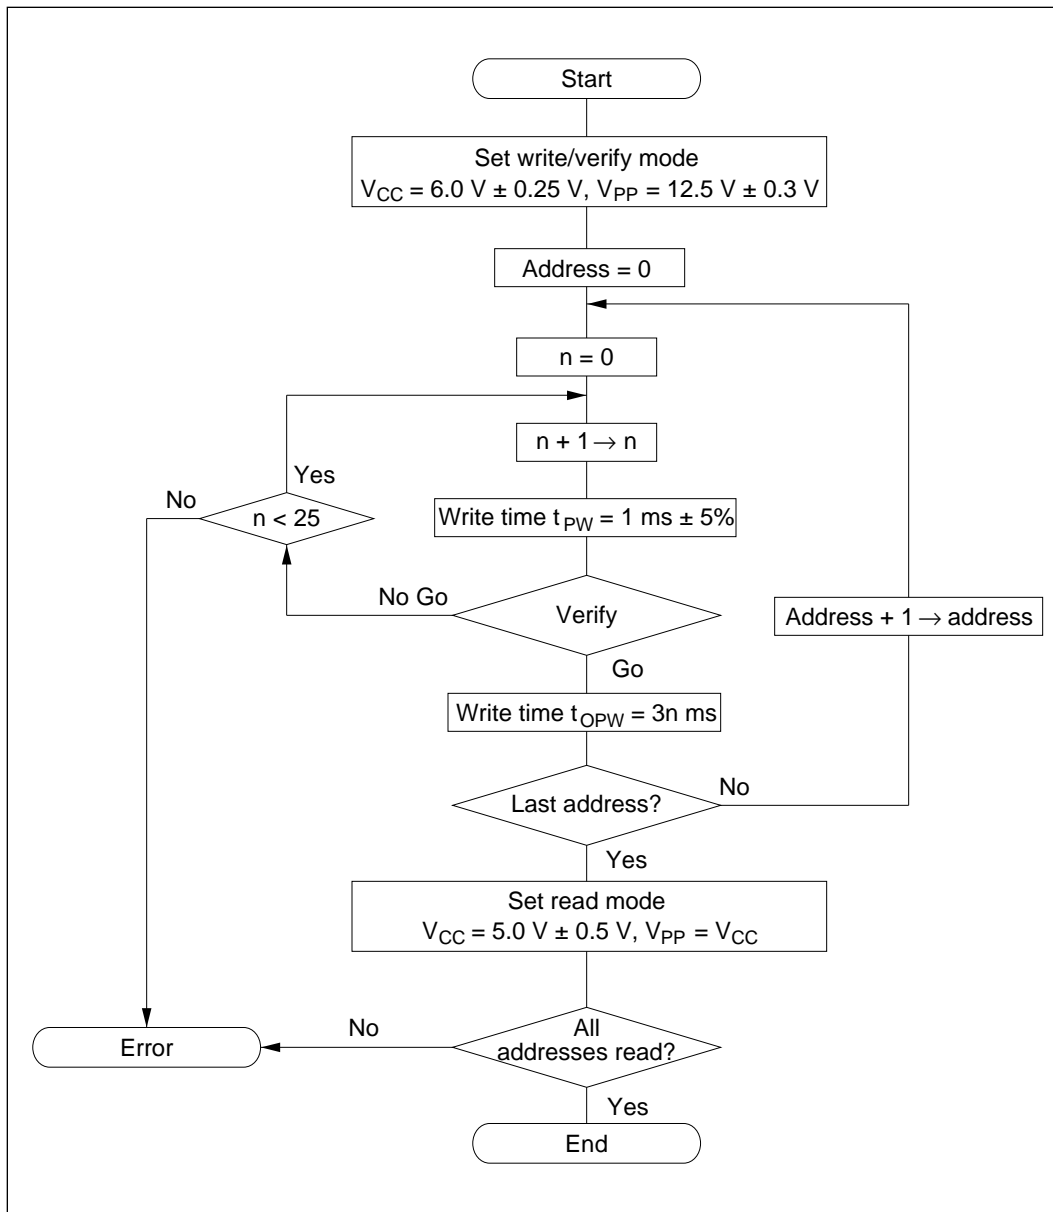
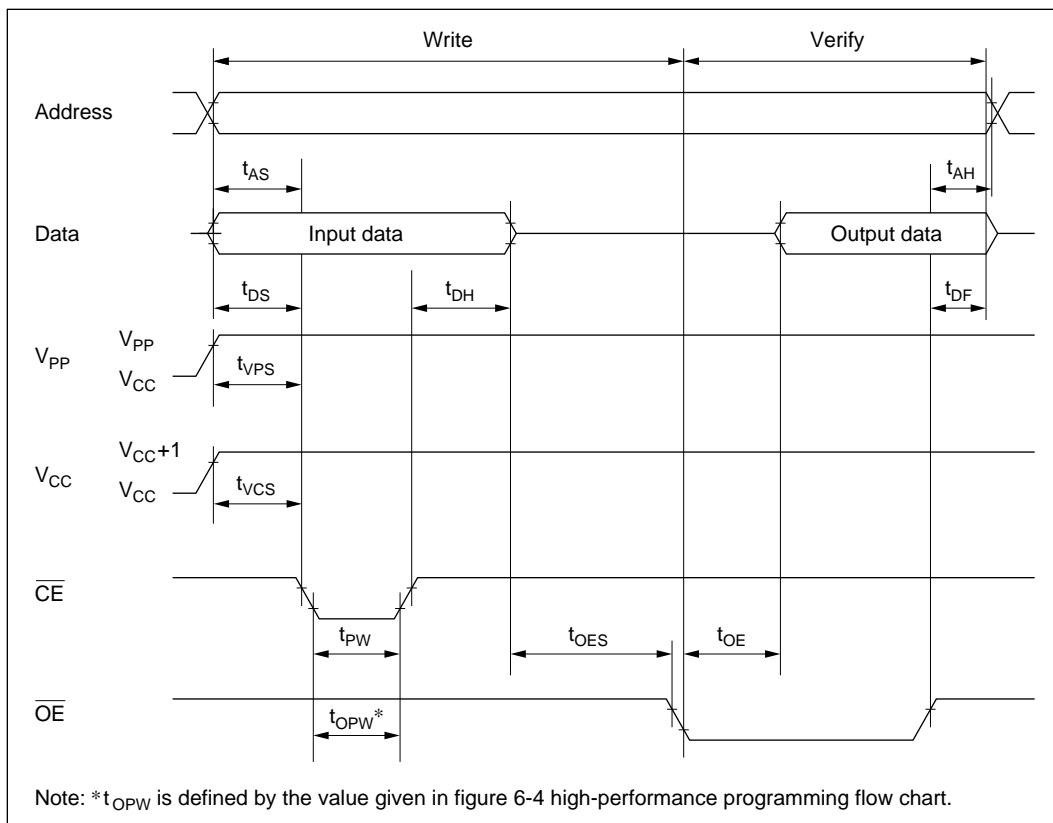

Figure 6-4 High-Performance Programming Flowchart
Figure 6-5 PROM Write/Verify Timing
The basic flow of this high-performance programming method is shown in figure 6-4. Table 6-4 and table 6-5 give the electrical characteristics in programming mode. Figure 6-5 shows a write/verify timing diagram.
2. t_{DF} is defined at the point at which the output is floating and the output level cannot be read.3. t_{OPW} is defined by the value given in figure 6-4 high-performance programming flow chart.